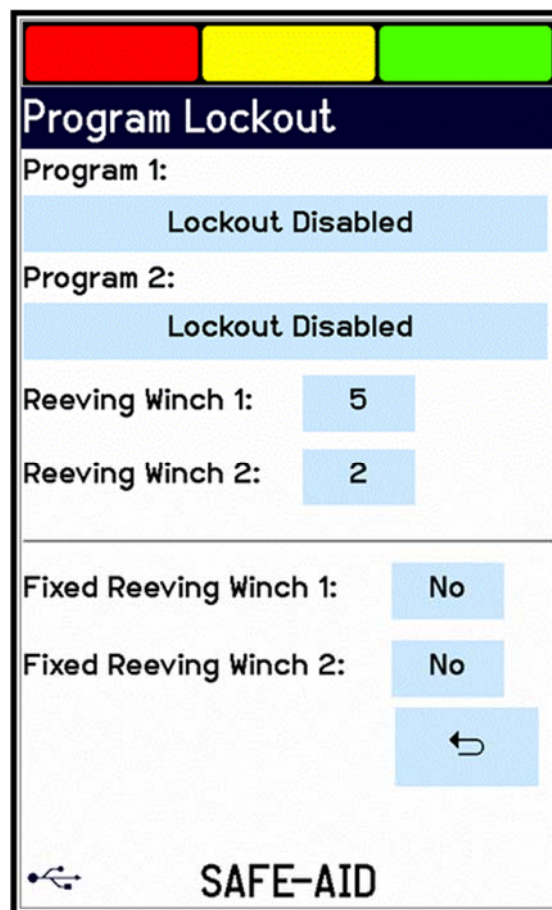

Figure 26
2. Enter the four digit password [- - -] followed by the **Enter** button, the Program Lockout screen will be displayed (figure 26).